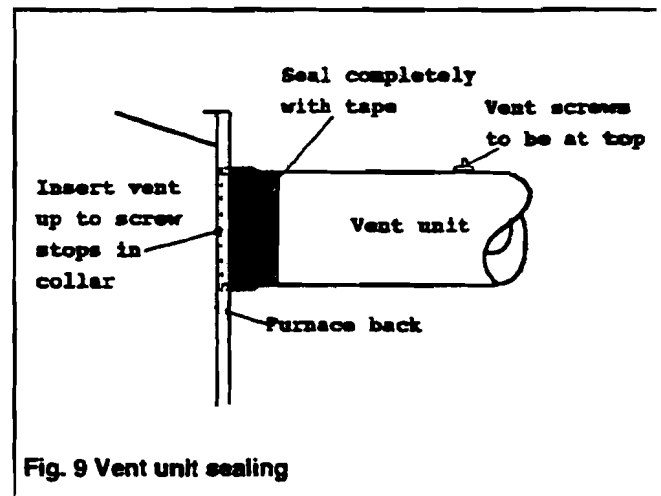

Fig. 9 Vent unit sealing
- 6.6 Seal the vent unit to the outer collar with the tape supplied wrapped round the vent unit (see figure 9).